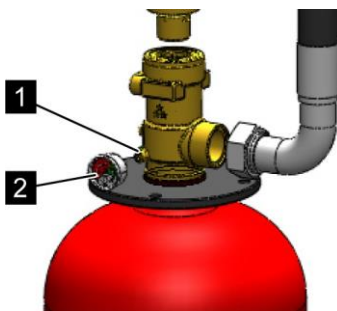
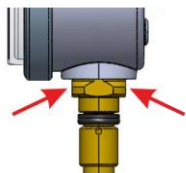

Fig. 185: Contact pressure gauge
Fig. 186: Key surface
1. ➤ Unscrew the contact pressure gauge (Fig. 185/2) out of the valve (Fig. 185/1) by hand. If the contact pressure gauge is difficult to turn, unscrew the contact pressure gauge on the key surface SW14 (Fig. 186) with a suitable tool.
4. ➤ Screw the contact pressure gauge into the connection on the valve (Fig. 185/1) as far as it turns easily *by hand*.
5. ➤ As soon as the contact pressure gauge is under pressure and is thus more difficult to turn, turn the contact pressure gauge on the key surface SW14 (Fig. 186) with a suitable tool until the stop in the connection.